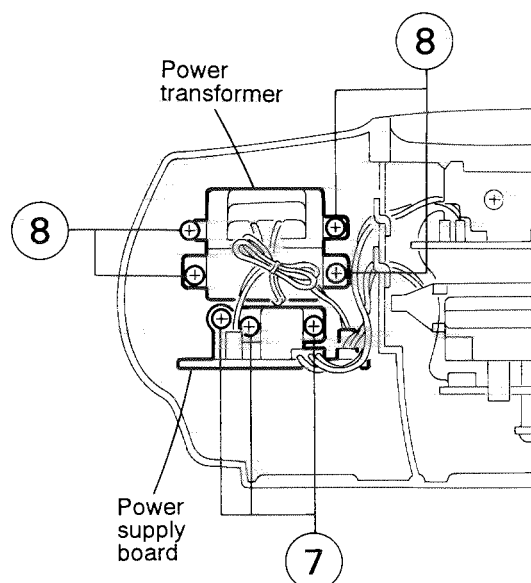

Fig. 5-13
■ Removing the power transformer and power supply board (See Fig. 5-13)
2. Remove the three screws (7) retaining the power supply board.
3. Remove the four screws (8) retaining the power transformer.